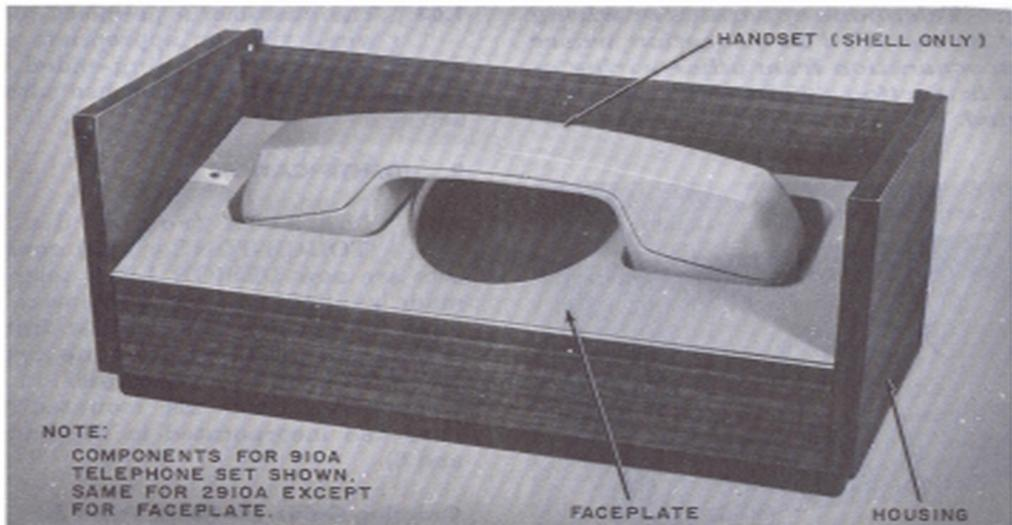

Fig. 4—Customer-Owned Components
2.01 The 910A (rotary dial) and 2910A (TOUCH-TONE® dial) equipped telephone sets are new DESIGN LINE telephone sets being made available to the customer. The customer buys the housing and handset from the telephone company and the telephone company retains ownership of the transmission and signaling components which are mounted on a removable base and incorporated in the handset (Fig. 4, 5, and 6).